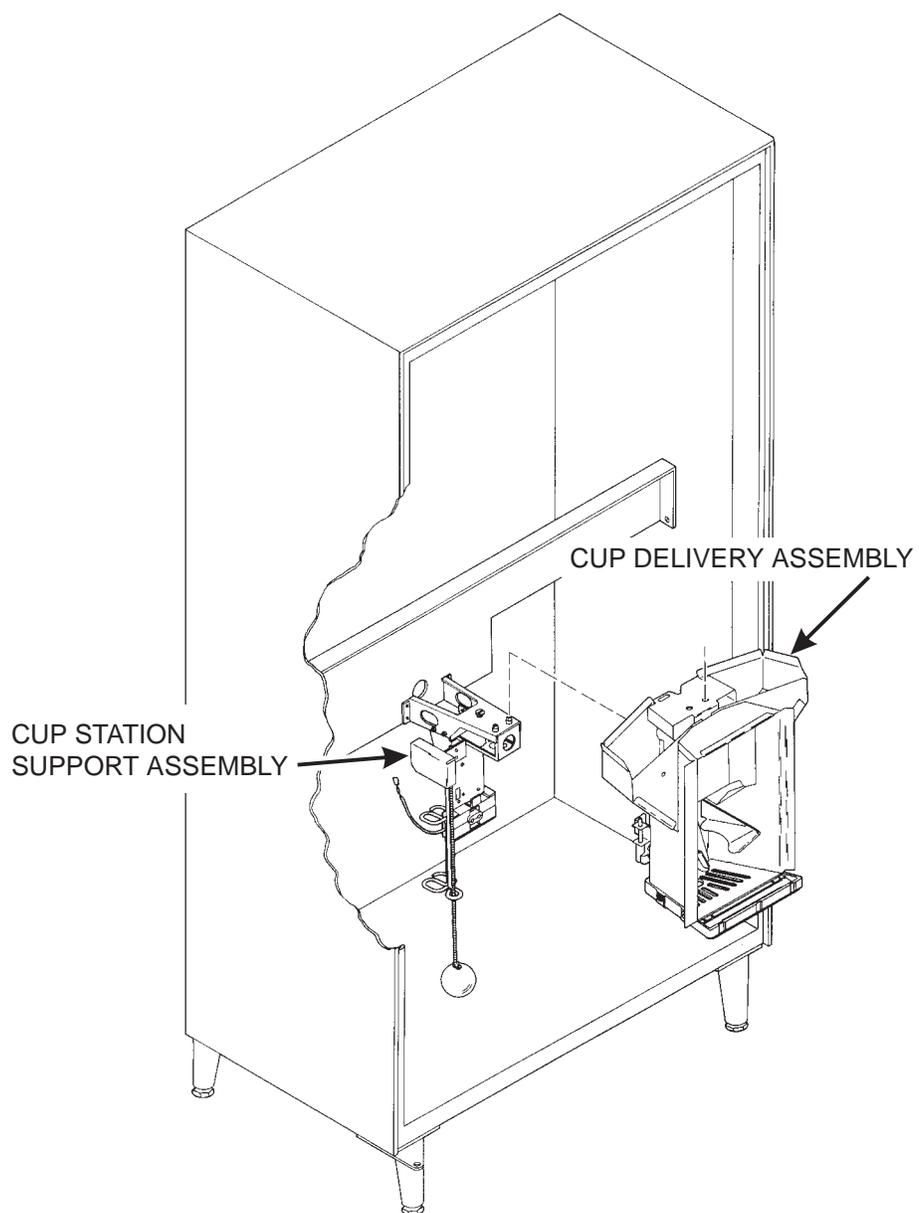

Figure 1
1. Remove the cup delivery assembly from the machine (Figure 1).